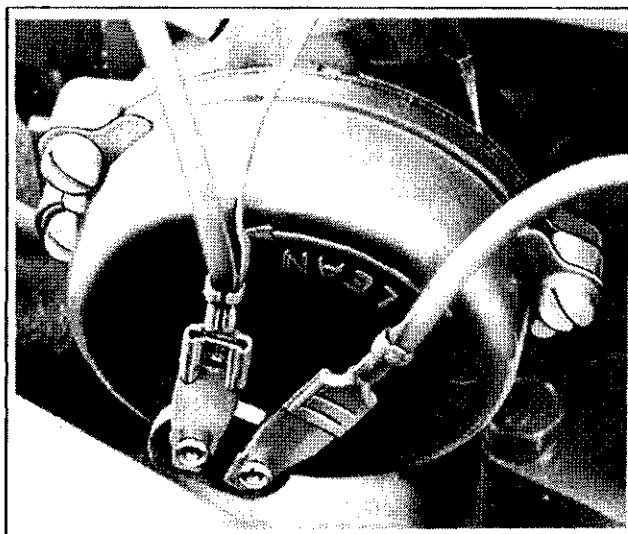

Figure 4-10. Automatic Choke.
The choke unit (Figure 4-10) is set at the factory for average conditions. To readjust for local conditions, loosen the cover retaining screws and shift the cover in clockwise direction for richer setting or counterclockwise direction for leaner setting. Tighten the cover retainer screws.
**Choke Unit Replacement** (see Figures 4-10 And 4-11).